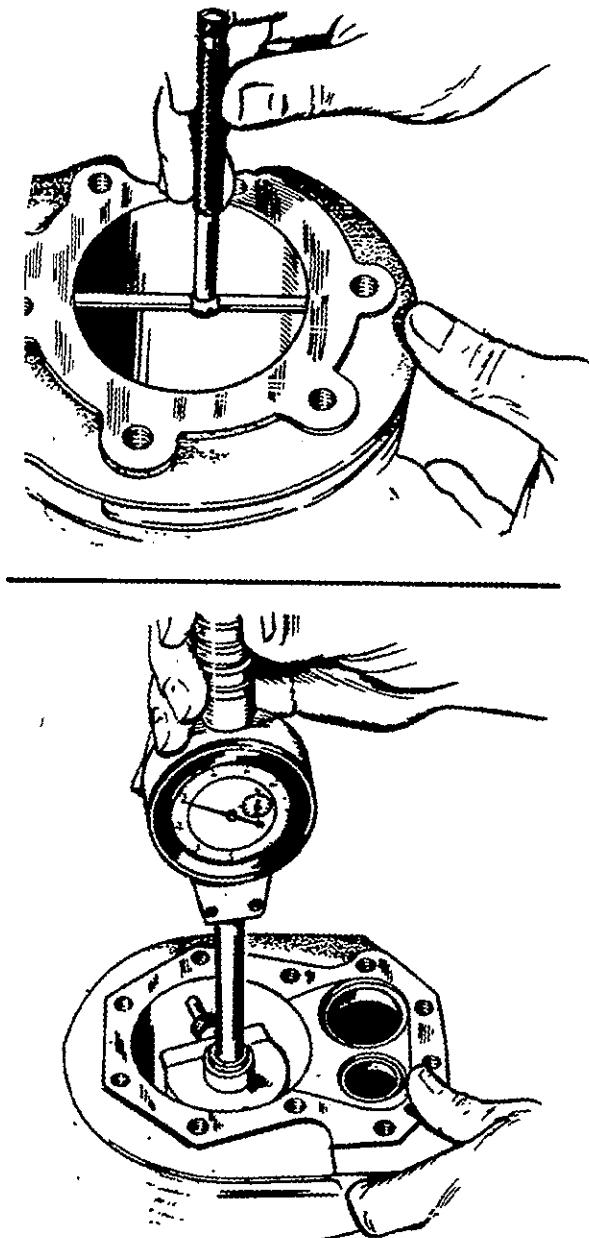

FIGURE 73. METHODS OF CYLINDER BORE INSPECTION
3. Check the cylinder bore for taper, out of round and wear with a cylinder bore gauge, telescope gauge or inside micrometer, Figure 73. These measurements should be taken at four places—two at the top and two at the bottom of piston ring travel.